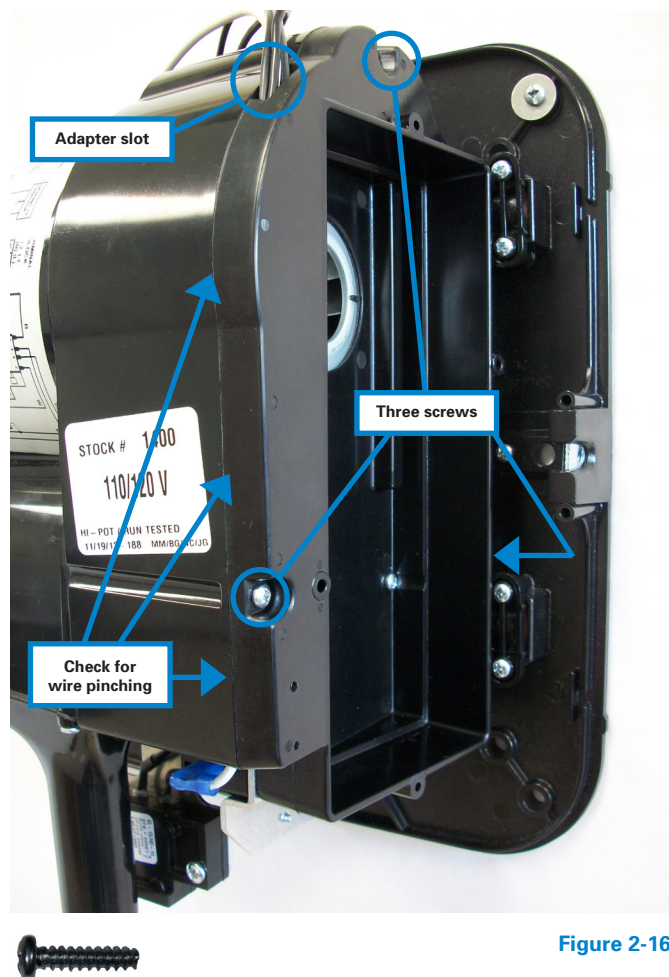

Figure 2-16
Step 2-12. Attach the HEPA Filter Adapter (A) with Control in the spot where the air inlet cover was removed, using the **three (3)** screws previously removed in Step 2-3. Make sure to route the wires through the HEPA Filter Adapter slot so that they are not pinched (especially in the areas indicated in **Figure 2-16**). It may be necessary to adjust the position of the HEPA Filter Adapter until it is flush with the dryer housing. The HEPA Filter Adapter will not be positioned flush to the dryer until the screws are tightened. The foam seal on the back of the HEPA Filter Adapter will compress against the casing of the motor.